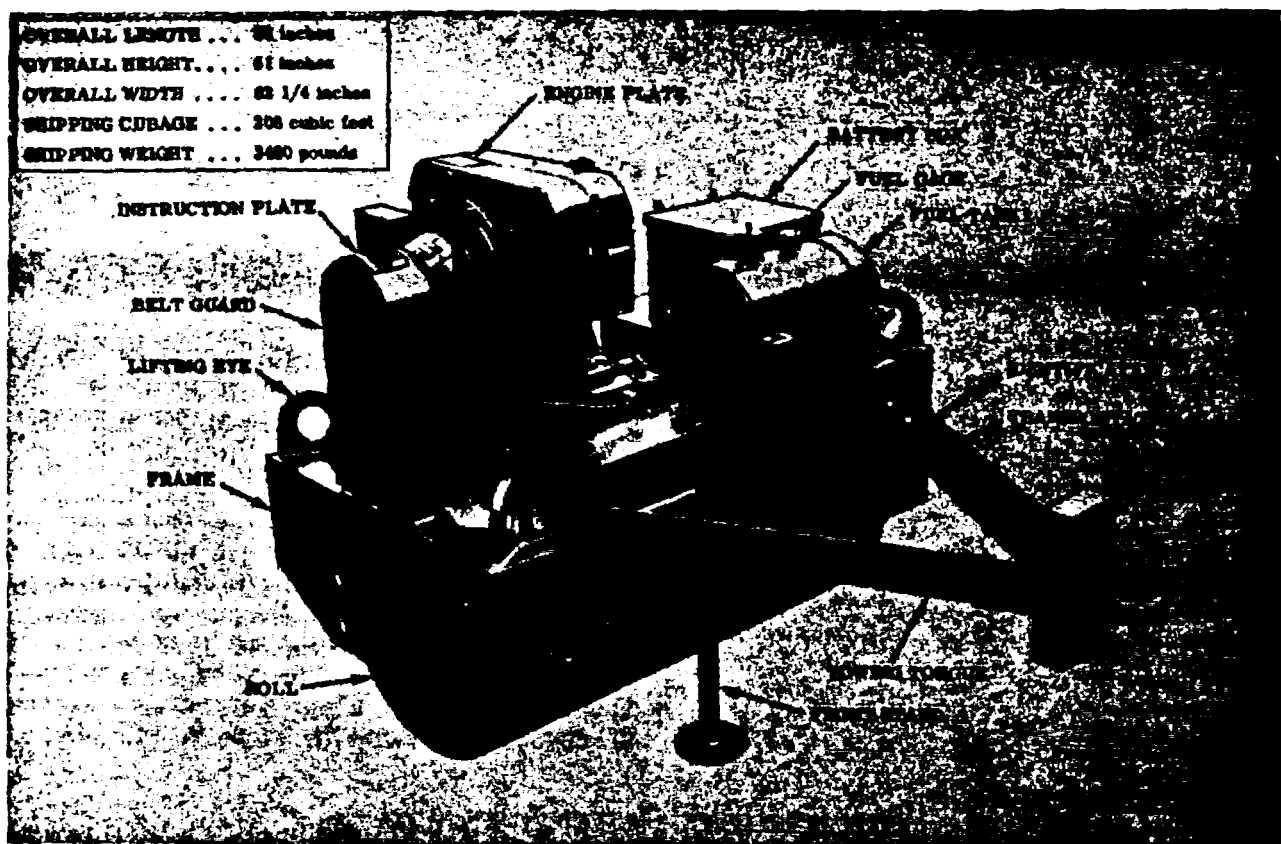

Figure 1-1. Roller, three-quarter right front view.
(1) Identification Plate - specifies the nomenclature, manufacturer's name and serial number, contract number and FSN number. It is located on right side of lower front frame member (fig. 1-1).
(2) Transportation Plate-specifies the nomenclature, tie-downs, lifting eyes, overall length, height and width, shipping weight and cubage. It is located on right side of lower front frame member (fig. 1-1).
(3) Instruction Plate - specifies the procedure for starting and operation of controls, It is located on top of belt guard (fig. 1-1).
(4) Engine Plate - located on the engine's air shroud (fig. 1-1). This is a Military Standard Engine (TM 5-2805-258-14 for further information).